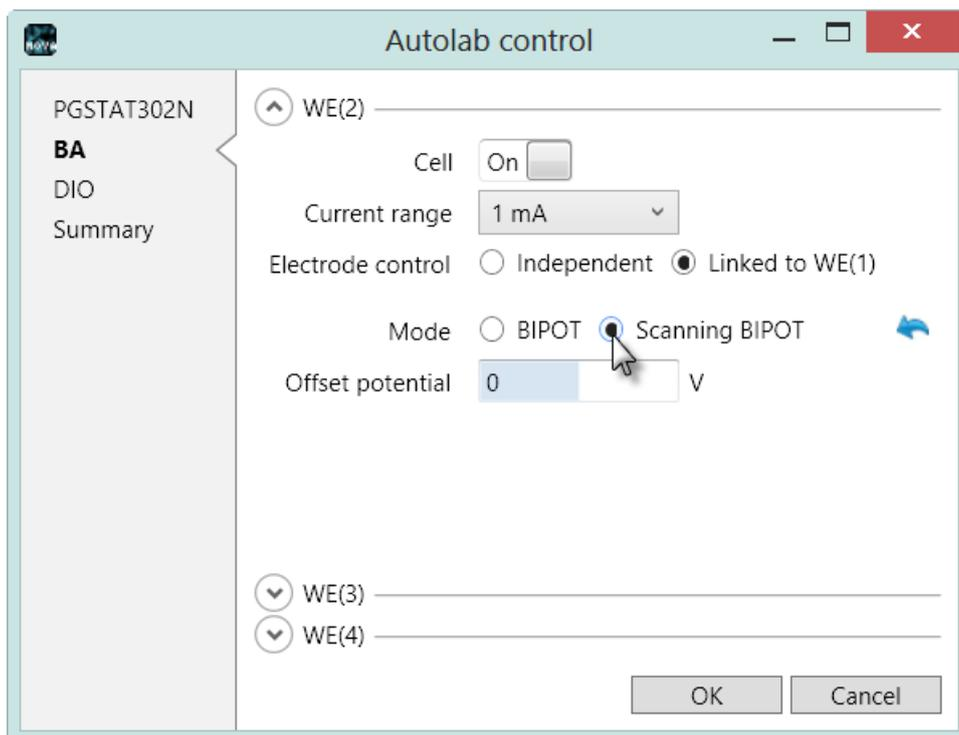

Figure 7 – Setting the mode for the second working electrode
To define the settings for WE(X), select the required item from the drop-down lists displayed in the Autolab control window. For example, to set the WE(2) mode, select the BIPOT or Scanning BIPOT using the provided radio buttons (see Figure 7).